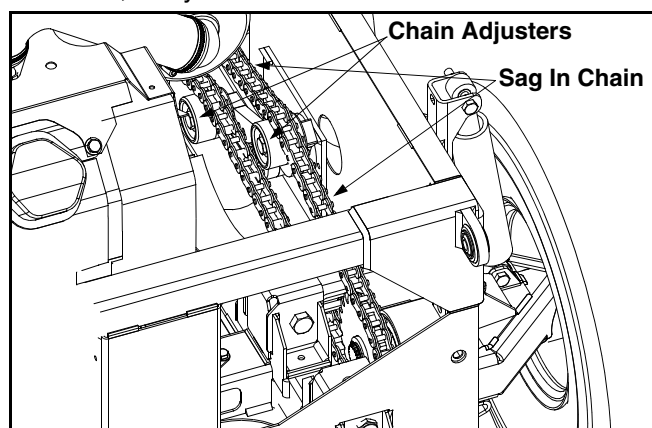

Figure 17
- Rotate wheels toward or away from each other and check to see if there is any slack in the chain. See Figure 17.